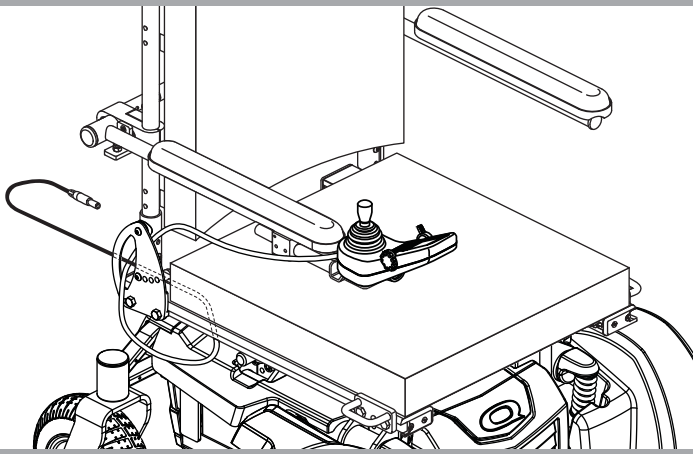

Figure 6. Controller Harness Routing on a Synergy Seat
4. Install the controller and route the harness to the back of the power base. **See figure 6, or 7.**
6. Secure the controller harness to the armrest receiver with wire ties. **See figure 6 or 7.**